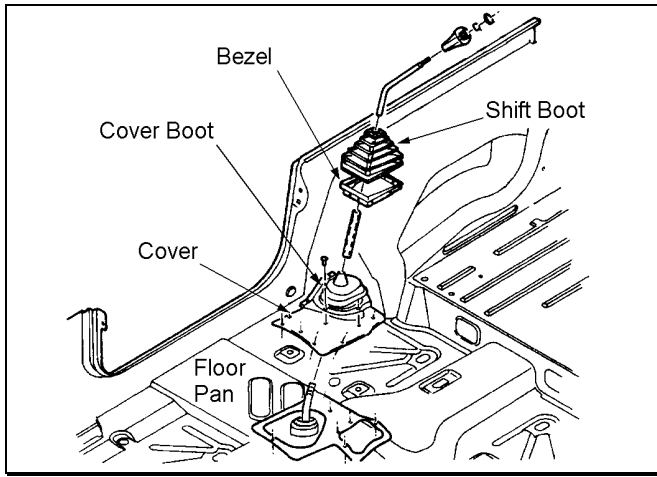

Figure 21
- 2) Pry up the shift boot and bezel from the floor console. See figure 21.